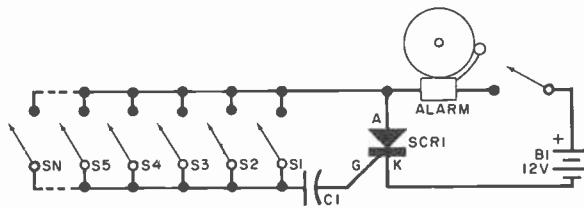

Fig. 7. Burglar alarm uses sensors in parallel.
Reader's Circuit. Guy Isabel (1725, Henri-Bourassa East Blvd., Apt. 25 Montreal, Quebec, H2C 1J5, Canada) uses the simple burglar alarm circuit shown in Fig. 7 in his own home. It includes a lantern battery, a spst power lock switch, an alarm device such as a heavy-duty bell, a medium-current silicon controlled rectifier, a capacitor and a group of normally open (NO) spst magnetic switches, S1 through S_N. The required capacitor value will vary somewhat with the gate sensitivity of the SCR used but, generally, will range from 0.05 μF to about 0.5 μF although a small electrolytic of 1 to 5 μF may be needed in some installations. In practice, the magnetic switches are mounted to protect doors, windows and other access openings, arranged to close when the door or window is opened, and wired in parallel.